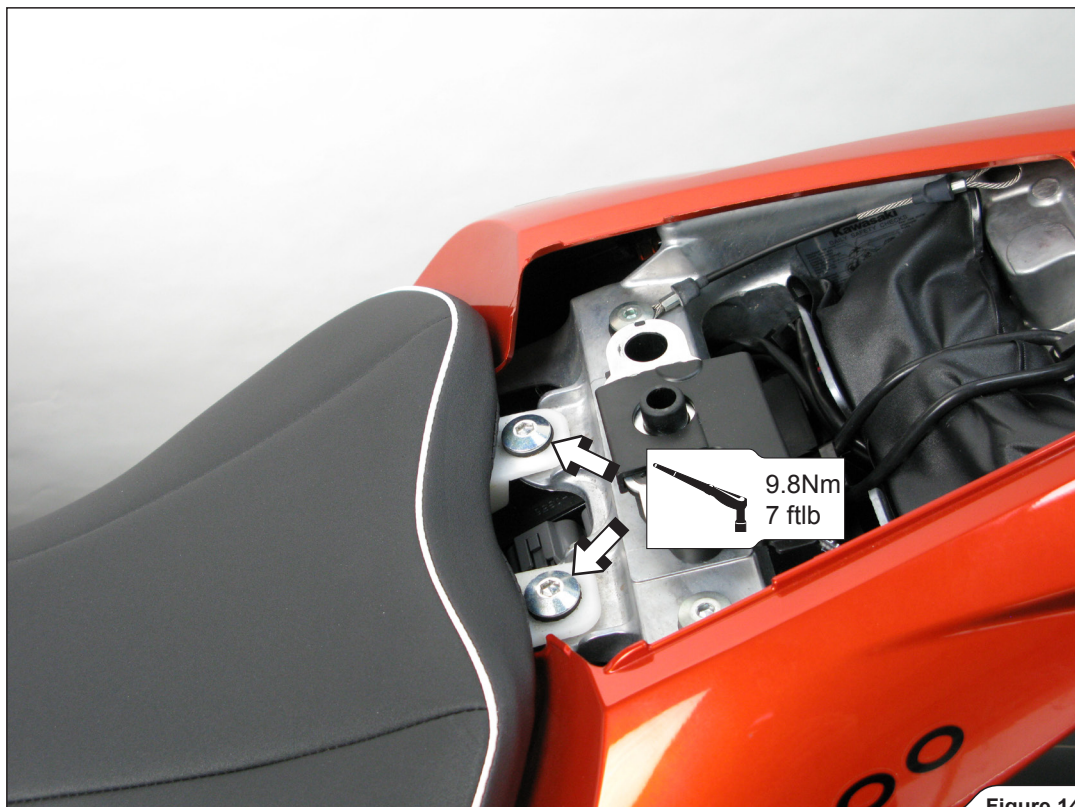

Figure 14
7. Reinstall both seats in the reverse order from the order in which they were removed (Figure 14).